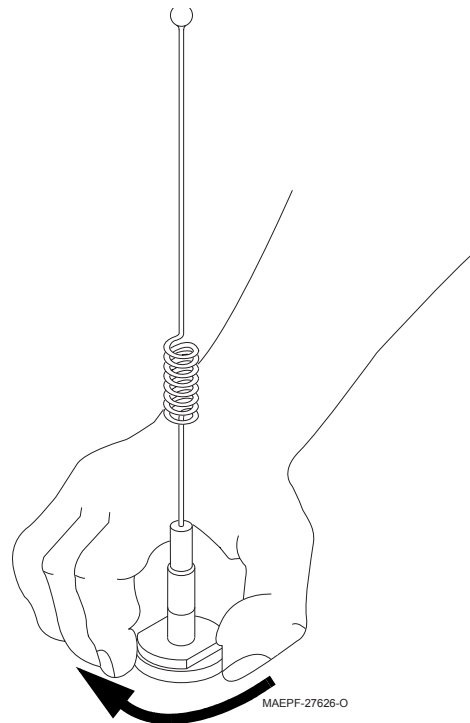

Figure 8. Attaching the Antenna
15. Refer to Figure 8. Position the antenna over the locking nut, and secure the metal cap to the external threads of the locking nut.